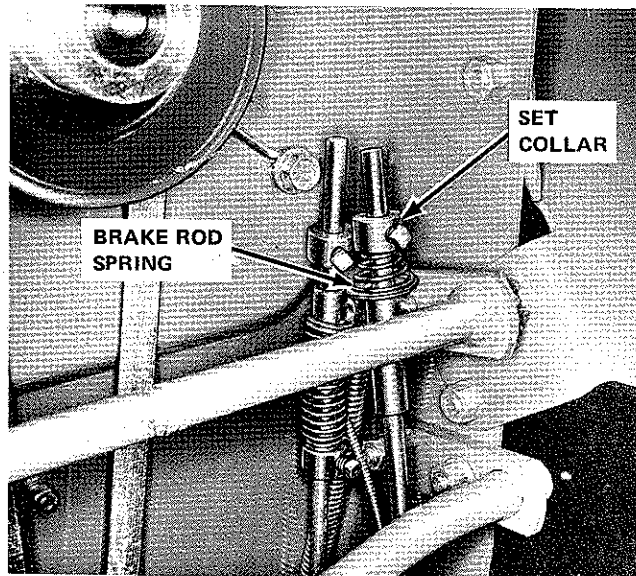

FIGURE 14
2. With the foot pedal released (up), secure the brake rod set collar against the tapered coil spring. Be sure to position the collar as shown in Figure 14 so that the spring is NOT compressed. Depress the foot pedal all the way down. It should stop two and one-half inches from the